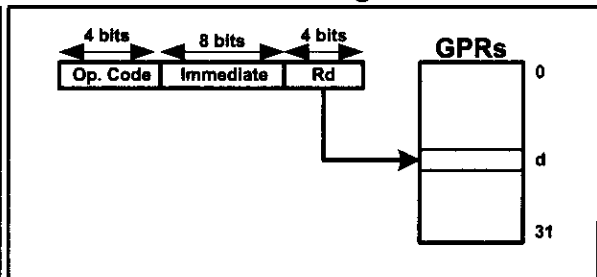

Figure 6-2b. Single-Register (with immediate)
3. Some AVR's have more than 64 I/O registers. The extra I/O registers are located above the data memory address \$5F. The data memory allocated to the extra I/O registers is called *extended I/O memory*. As shown in Figure 6-2b, in the I/O direct addressing mode, the address field is a 6-bit address and can take values from \$00-\$3F, which is from 00 to 63 in decimal. So, it can address only the standard I/O register memory, and it cannot be used for addressing the extended I/O memory. For example, the following instruction causes an error, since the I/O address must be between 0 and \$3F: